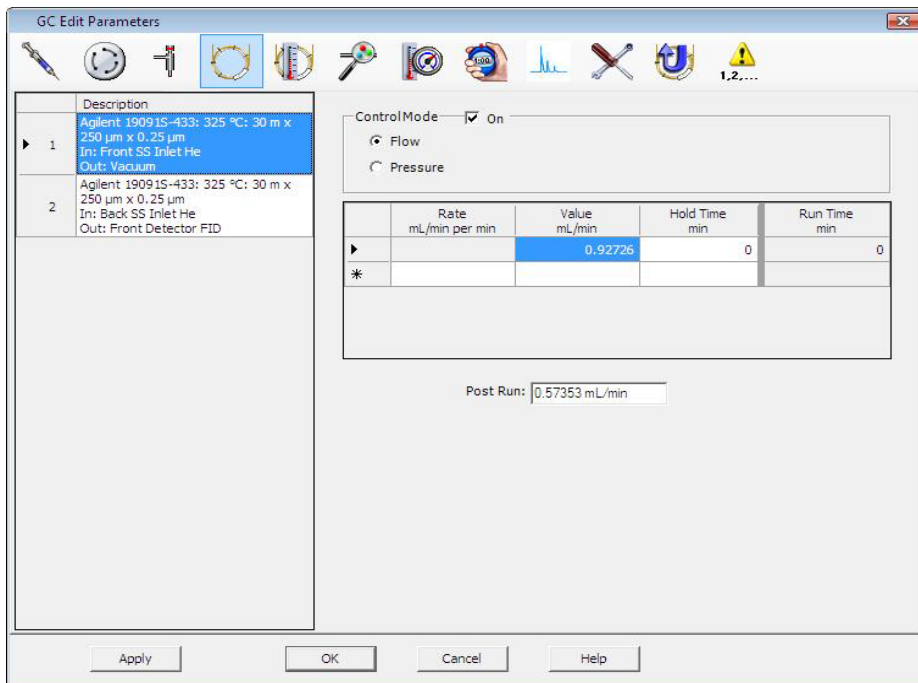

Figure 21 Calculating column flow
- 2 Click the **Columns** icon (Figure 21 shows an example).